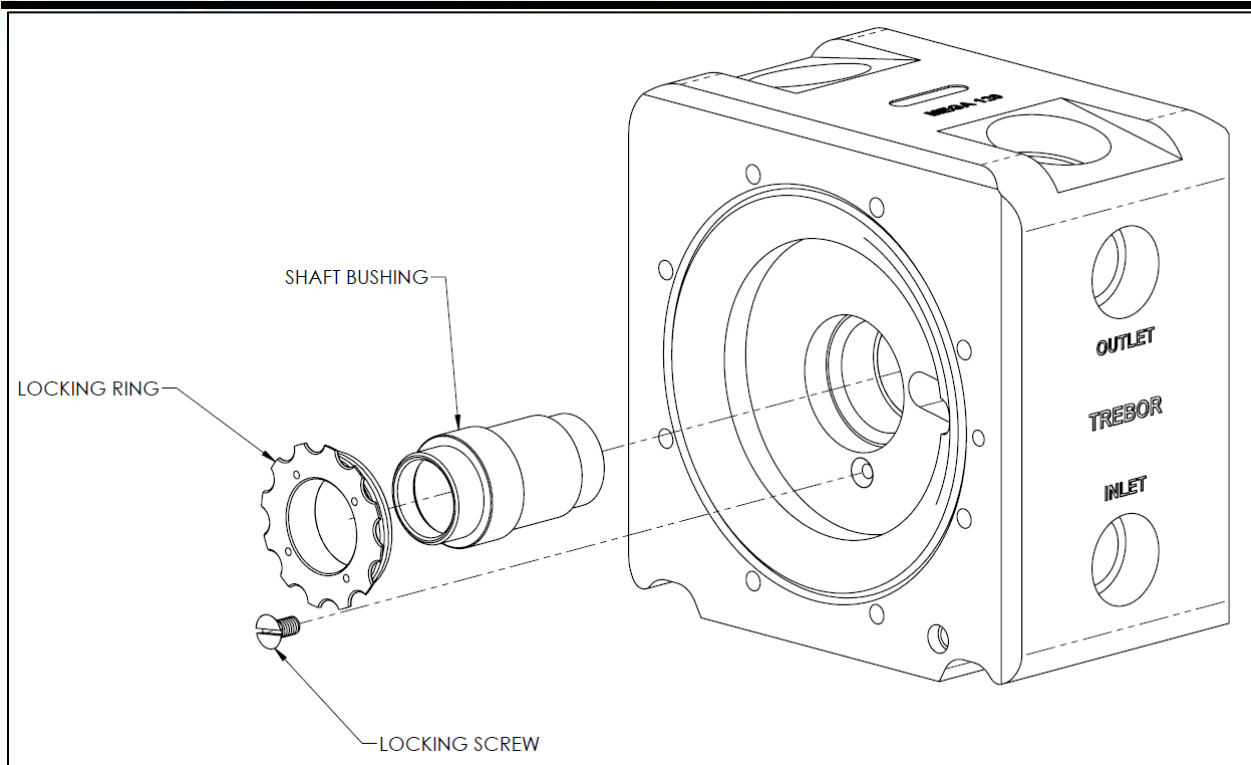

Figure 4-8
- Install shaft bushing per Figure 4-8.